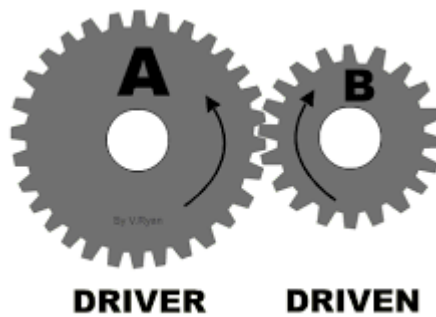

Figure 2: Gears
b. Outline the function of the driver and driven gears in Figure 2 below.